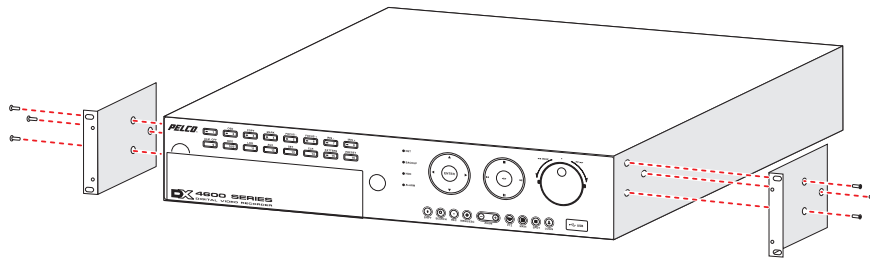

Figure 6. Attaching Chassis Brackets
2. Using the six 10-32 x 0.375-inch Phillips screws, attach the two chassis brackets to the left and right sides of the unit (refer to Figure 6).